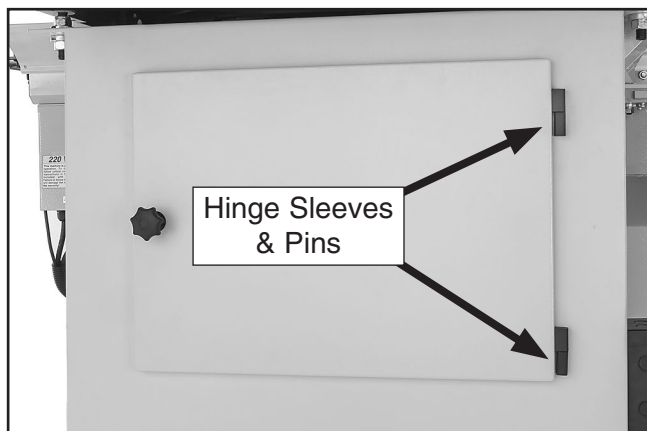

Figure 22. Cabinet door attached on hinges.
6. Attach cabinet door by sliding hinge sleeves over pins of already attached hinge (see **Figure 22**).